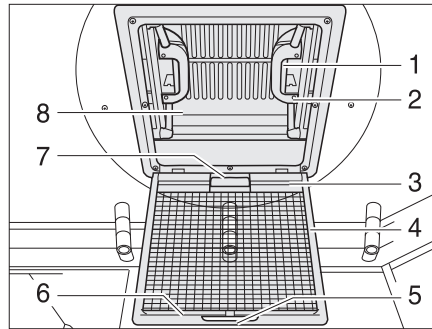

Fig. 85 Skylight with snap latch
- Pull on the handle (Fig. 85,5).
- Fold the insect screen (Fig. 85,4) downwards.
- Push the spring-loaded latch (Fig. 85,1) towards the inside of the skylight (Fig. 85,8). At the same time use the handle (Fig. 85,2) to press the skylight upwards.
- Swing the insect screen upwards (Fig. 85,4) until it latches in place.
- Using both handles (Fig. 85,2), pull down the skylight (Fig. 85,8) with force until the two snap latches (Fig. 85,1) lock into place.
- Pull the handle (Fig. 85,7) of the blind and hook the hook rail (Fig. 85,3) into the retainer (Fig. 85,6) on the insect screen.
- Release the hook rail (Fig. 85,3) from the retainer (Fig. 85,6) and feed the blind back slowly.